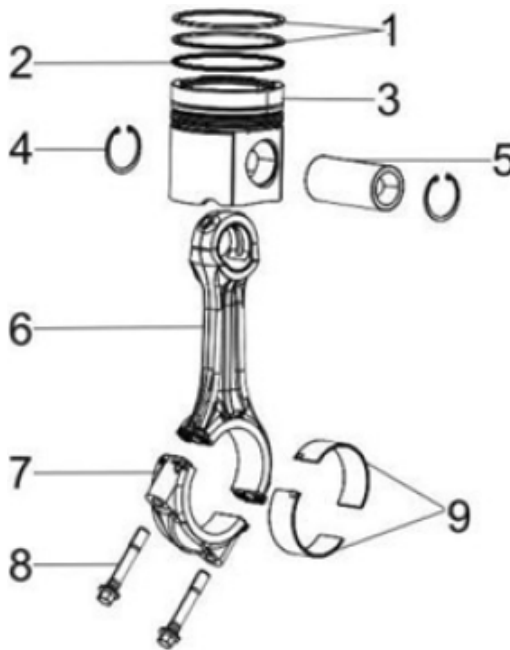

Figure 120.
2. Carefully clean the ring grooves of the piston (Figure 120, Item 3). Fit the piston rings (Figure 120, Items 1 & 2) with the special tool.
5. Fit the 1st circlip (Figure 120, Item 4) onto one end of the piston.
6. Lightly oil the bore openings and insert the piston pin (Figure 120, Item 5) into the first part of the bore.